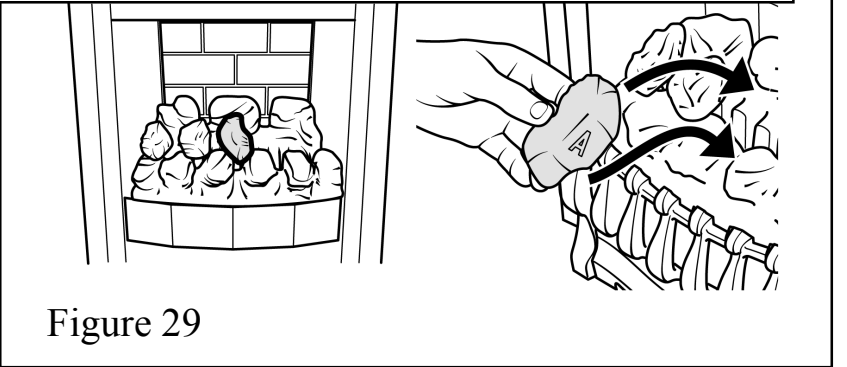

Figure 29
7. Place a type "A" coal between the front and rear base coals with the letter "A" upright. The top of the coal should rest against the centre coal of the rear base coal as shown in figure 29.